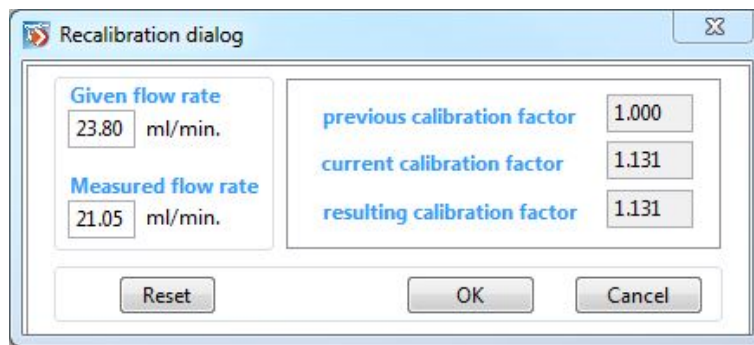

Figure 35 – Recalibration dialog in the PumpControl software.
1. Click on the “Recalibration factor” button to open the dialog (Figure 35).
2. Insert the given flow rate and the one that was measured of yourself in the recalibration dialog (Figure 35). Then press “OK”.